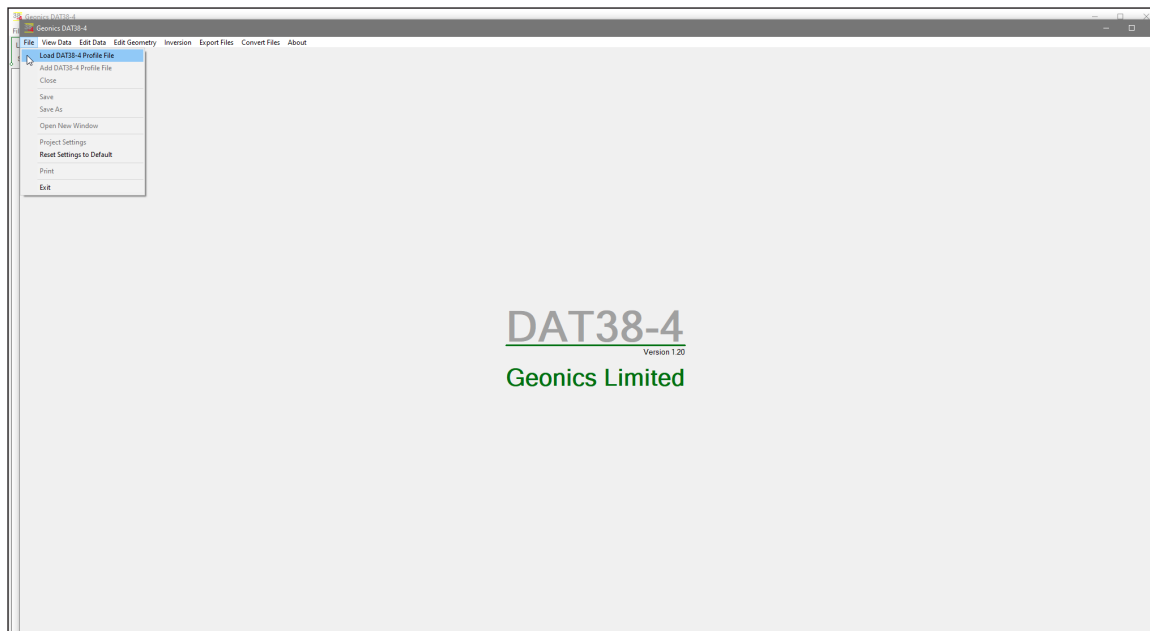

Figure 3.7 New DAT38-4 Program Window on top of previous data set
- A new program window appears with a slight offset (Figure 3.7), where you can load a new file.